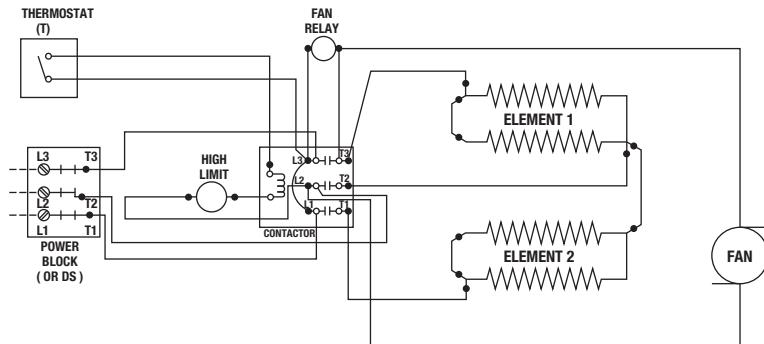

Figure 3
switch to terminals L1 and L2 (L3 for three phase) on contactor of the heater. (See Wiring Diagram, Figure 3).
3. Connect wires on T1 and T2 (and T3 for three phase) from the disconnect switch to the contactor on the heater. See Wiring Diagram, Figure 3.
2. Connect heater white wires to "L2" and "cycle" terminals on the thermostat as shown in the wiring diagram, Figure 3.